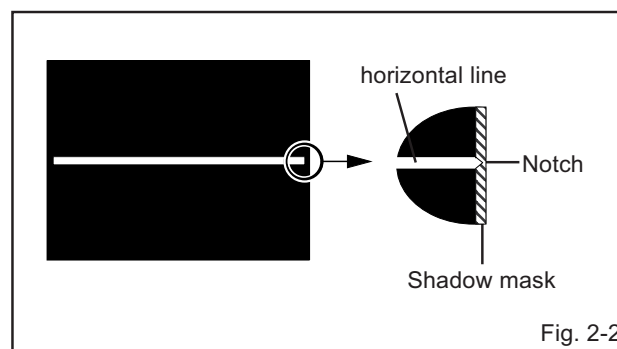

Fig. 2-2
5. Adjust the **VR401** until the horizontal line becomes fit to notch of the shadow mask. (**Refer to Fig. 2-2**).